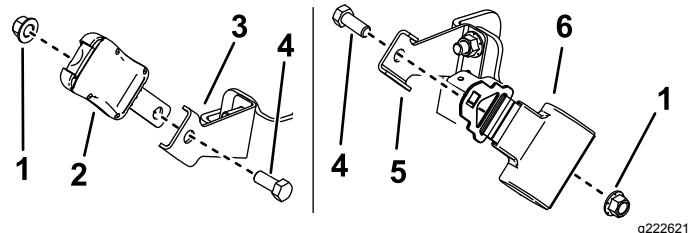

Figure 5
2. Install the seat-belt assembly and buckle to the brackets using 2 bolts (1/2 x 1-1/4 inches) and 2 locknuts (1/2 inch) as shown in Figure 5. Torque the bolts to 41 N·m (30 ft-lb).